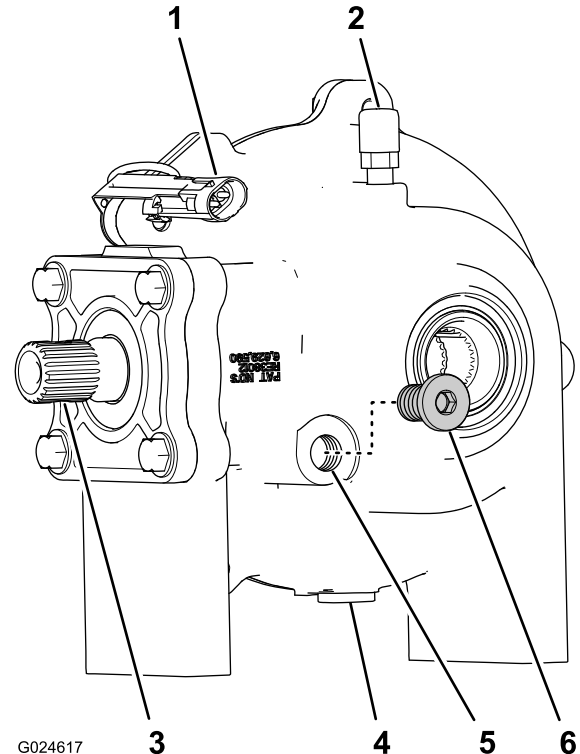

Figure 25
- Set the front differential on a flat-level surface (Figure 25).
- Remove the plug from the sight-plug port in the case of the differential (Figure 25).
Note: The oil level in the differential should be at the bottom of the threads in the port for the sight plug (Figure 25).
- If the oil level is low, slowly add the specified oil into the differential through the site-plug port (Figure 25).
- If the oil level is high, allow the excess oil to drain from the site-plug port (Figure 25).
- Install the sight plug into the site-plug port of the differential (Figure 25).
1. Clean the splines on the forward-output shaft of the transmission and the input shaft of the differential (Figure 25 and Figure 28).